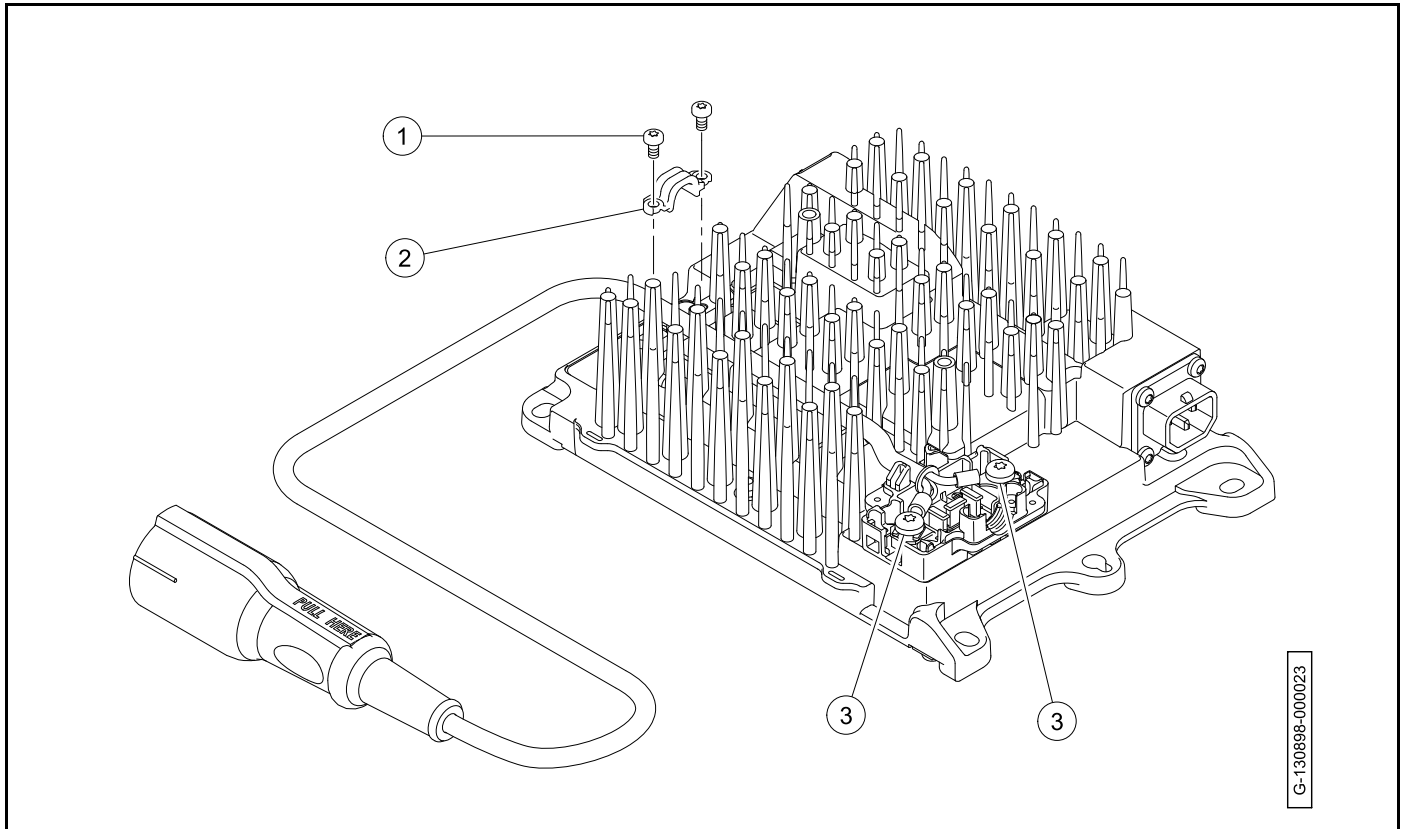

Figure 15-18 DC Cord
4. Remove the screws (1) (Figure 15-18, Page 15-33).